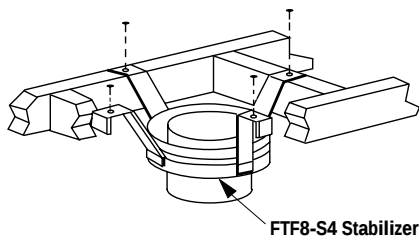

Figure 29
Install the Model FTF8-S4 stabilizer by fitting inner section down into respective section of proceeding flue pipe and locking outer stabilizer section into place over the outer chimney pipe. Position for proper clearance through framed opening and nail straps securely (under tension in "shear") into place on framing. Use 8d nails. Attach successive lengths of chimney pipe directly to stabilizer using same techniques as described in Step 4 (**Figure 29**).
Step 1. Use Offset Chart to determine amount of horizontal offset (A) and height (B) for various chimney section assemblies.
Step 3. Use Elevation Chart as job estimator only. Add necessary firestop spacers and stabilizers as required. Firestop spacers must be used as shown in **Figures 23 and 24** and stabilizers as shown in **Figure 29**.